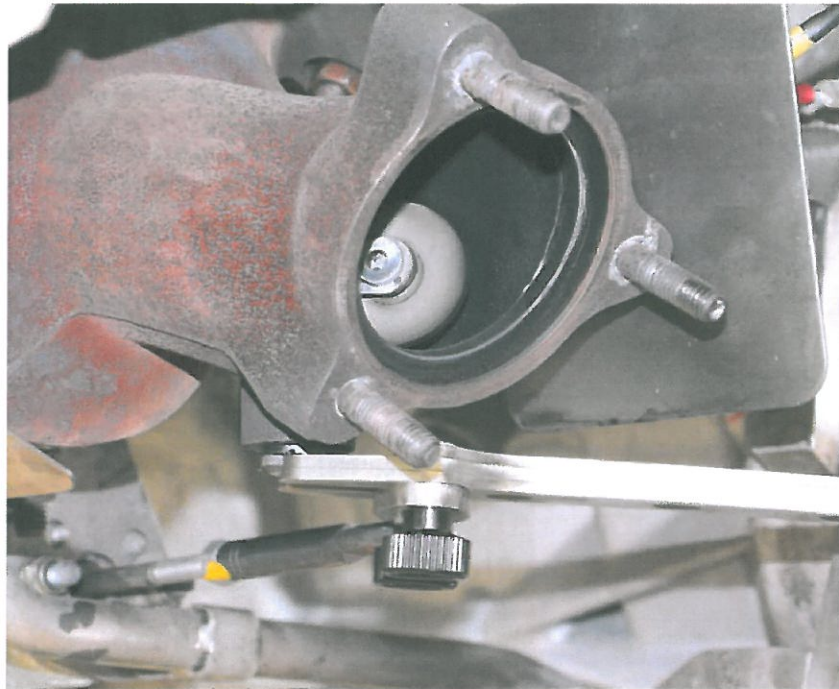

Fig. 4 Installation of the drill guiding tool
7. Install the drill guiding tool to the counter support. Attach the guiding tool with the two screws of the tool set on the counter support. See Figure 4.